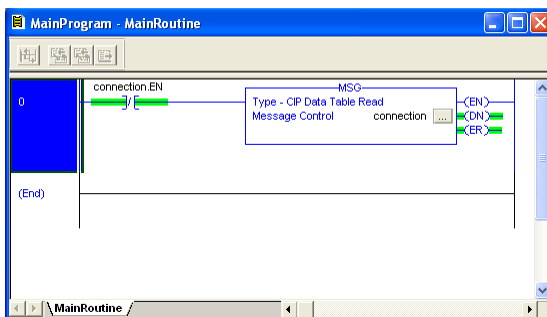

Figure 52: Complete Program
6) The program is now complete. Refer to Figure 52.